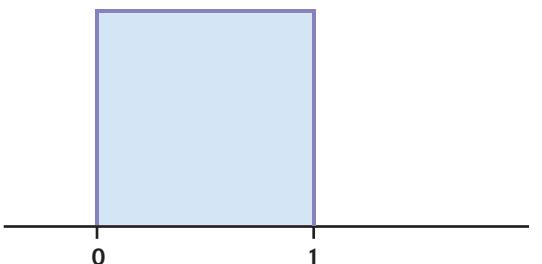

FIGURE 1.18 The density curve of a Uniform distribution, for Exercise 1.60.
- 1.60 Figure 1.18 displays the density curve of a *Uniform distribution*. The curve takes the constant value 1 over the interval from 0 to 1 and is 0 outside that range of values. This means that data described by this distribution take values that are uniformly spread between 0 and 1. Use areas under this density curve to answer the following questions.